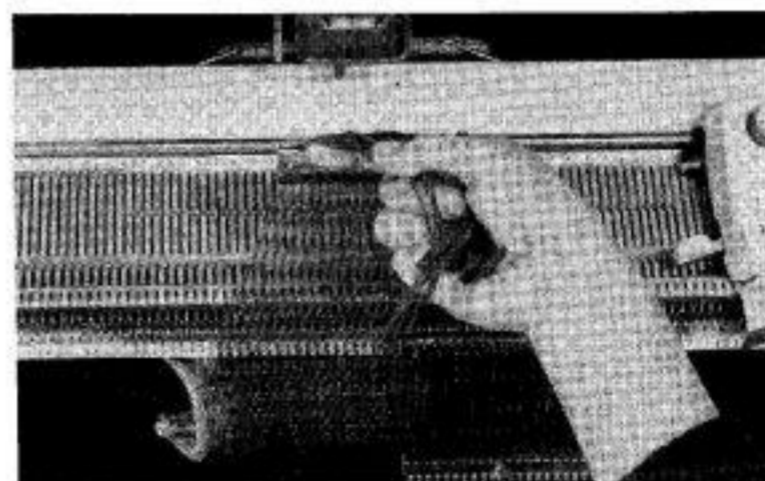

Fig. 74
- (f) Raise up the Vertical Pattern Knitter as shown in Fig. 74 and hook each strand onto each adjacent needle on the right.